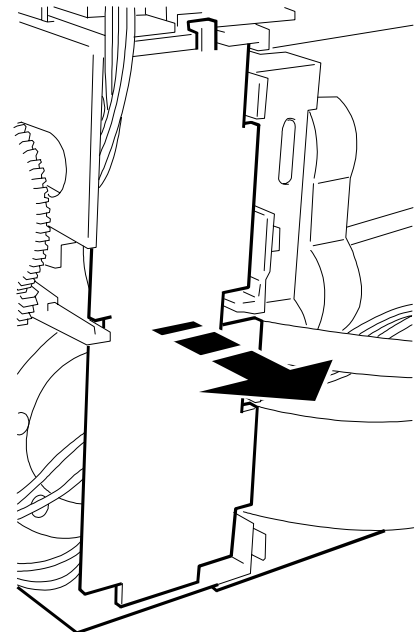

Figure 5-14
- To completely extract the print head and related flat cable remove the board shown in Figure 5-14; gently bend this board so that it can be removed.